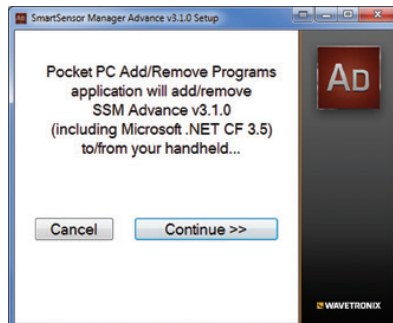

Figure 3.5 – Adding SSMA to a Pocket PC
- 4 Click **Continue>>** to start the Pocket PC installation process (see Figure 3.5). The setup program runs the Add/Remove Programs application for Windows handheld devices. If a Pocket PC device is connected to the computer, Add/Remove Programs will immediately begin installing SSMA on the Pocket PC device. If a Pocket PC device is not connected to the computer, SSMA will be downloaded the next time a Pocket PC device is connected to the computer.